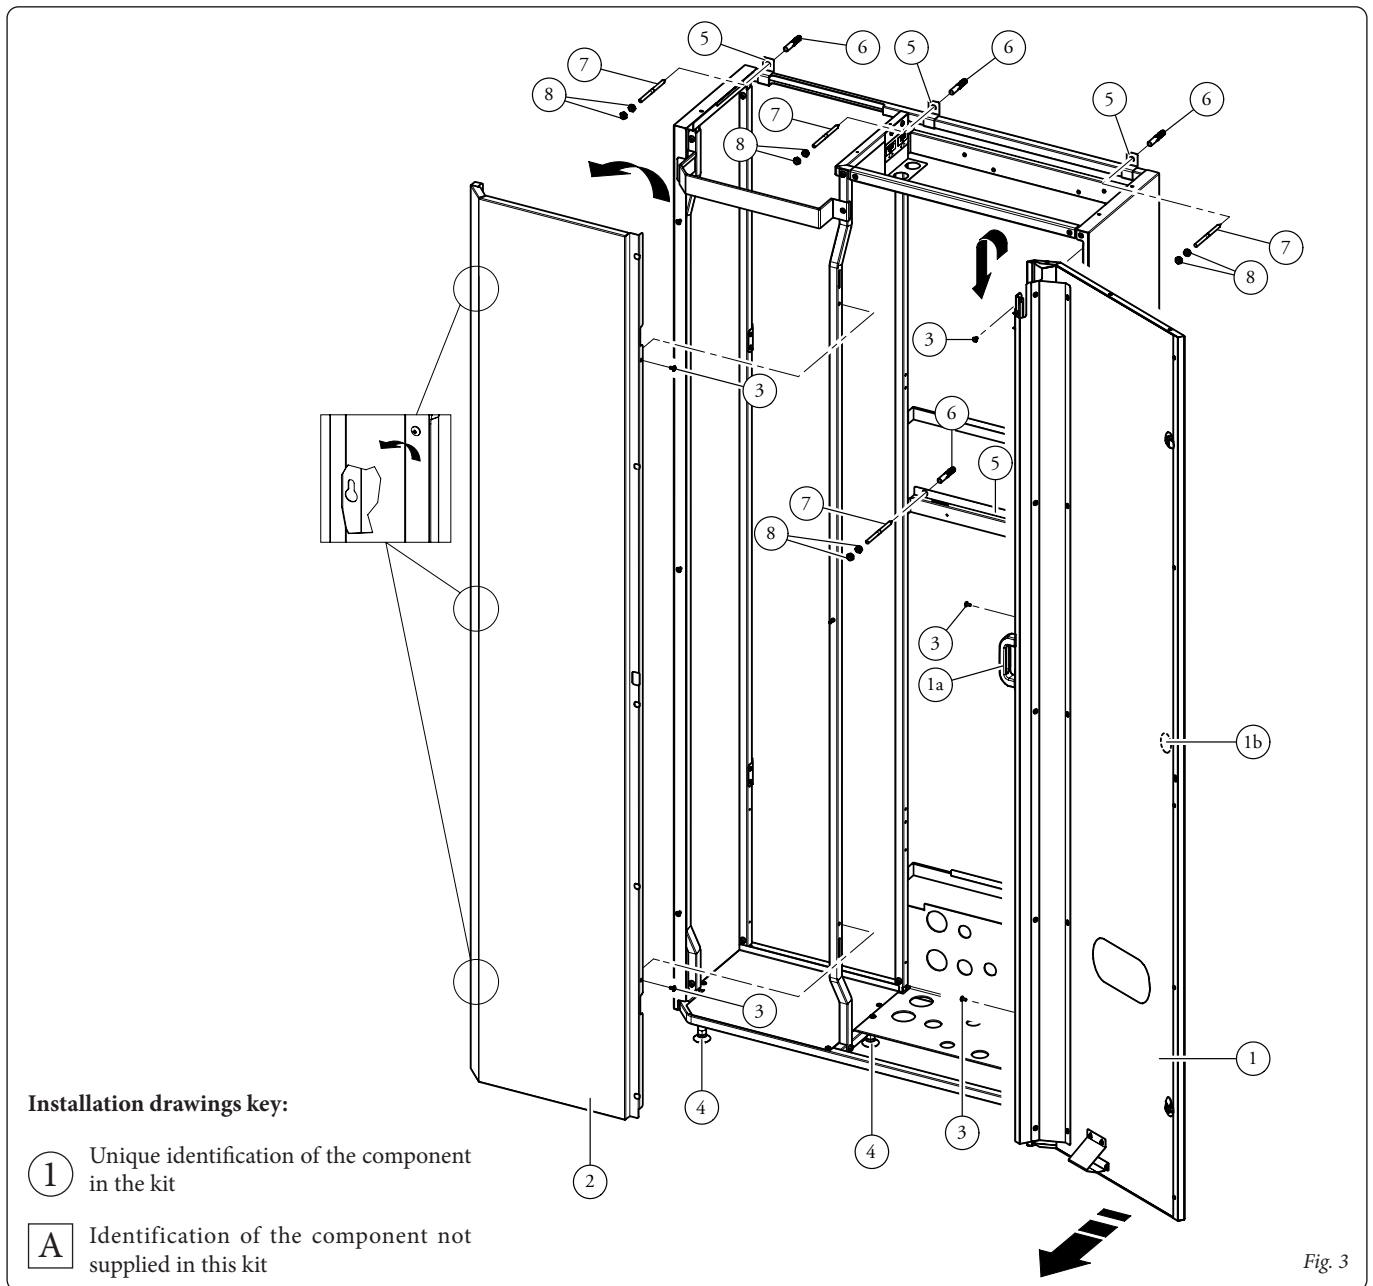

Fig. 3
**N.B.:** to remove the front door (1) after having loosened the appropriate screws (3), grip the handle (1a) with your left hand and the knob (1b) with your right hand.
- Proceed by levelling the Domus Container using the provided levelling feet (4).
- Make 4 Ø 10 mm holes on the wall in correspondence with the holes of the brackets (5).
- Fix the Domus Container on the wall using the Ø10x60 wall plugs (6), screws (7) and nuts (8) supplies (Fig. 3).